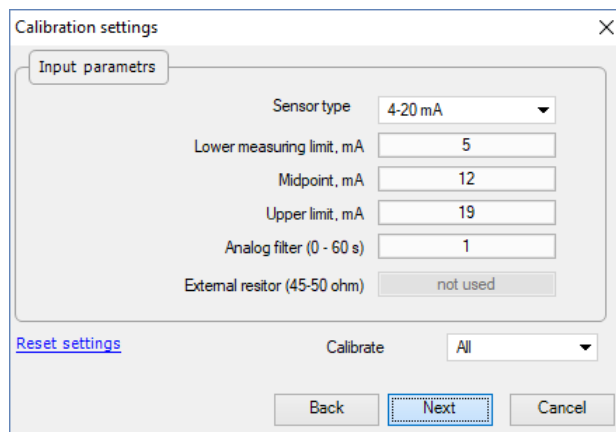

Fig. B.3 Configuration parameters
6. Select the type of input signal and other calibration parameters (Fig. B.3).